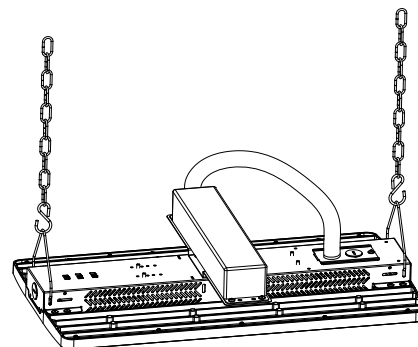

Figure 15
- Step2. Assemble the emergency power supply to the bracket, and then connect according to the wiring mode(Figure 15).